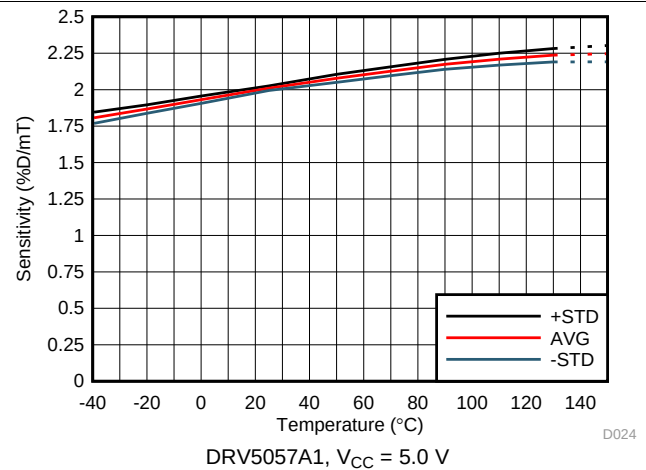

图 4. Sensitivity vs Temperature
(1) B is the applied magnetic flux density.
(2) See the section.
(3) B_L describes the minimum linear sensing range at 25°C taking into account the maximum V_Q and Sensitivity tolerances.
(4) See the Sensitivity Linearity section.
(5) S_{TC} describes the rate the device increases Sensitivity with temperature. For more information, see the Sensitivity Temperature Compensation for Magnets section and 图 4 to 图 11.